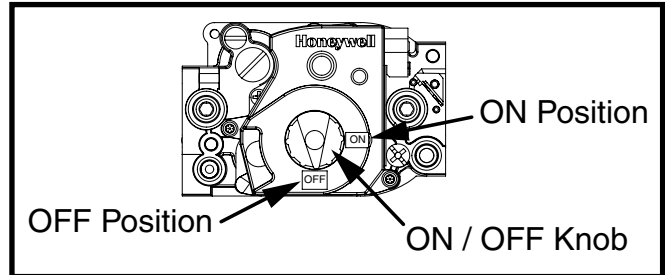
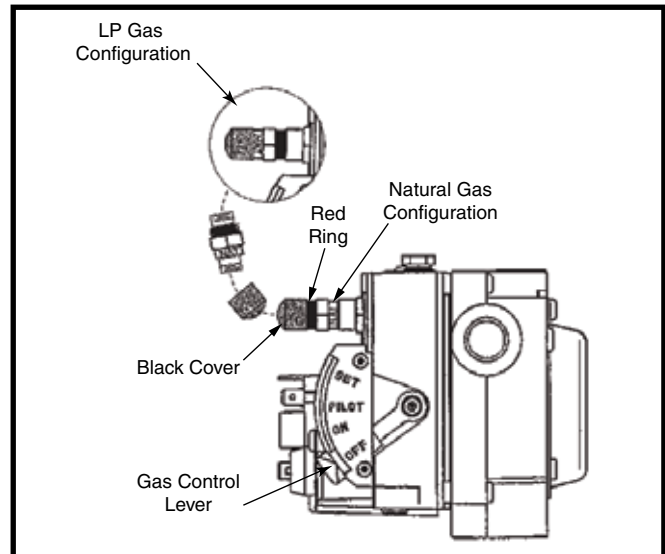

Figure 3. Honeywell Gas Valve
Figure 4. Robertshaw Gas Valve
2. Is the On/OFF switch (inside the blower compartment) turned on? See Figure 3, (page 6).
5. Set the gas valve ON/OFF knob / switch to the OFF position. See Figure 3 or Figure 4 for gas valve type and knob / switch location.